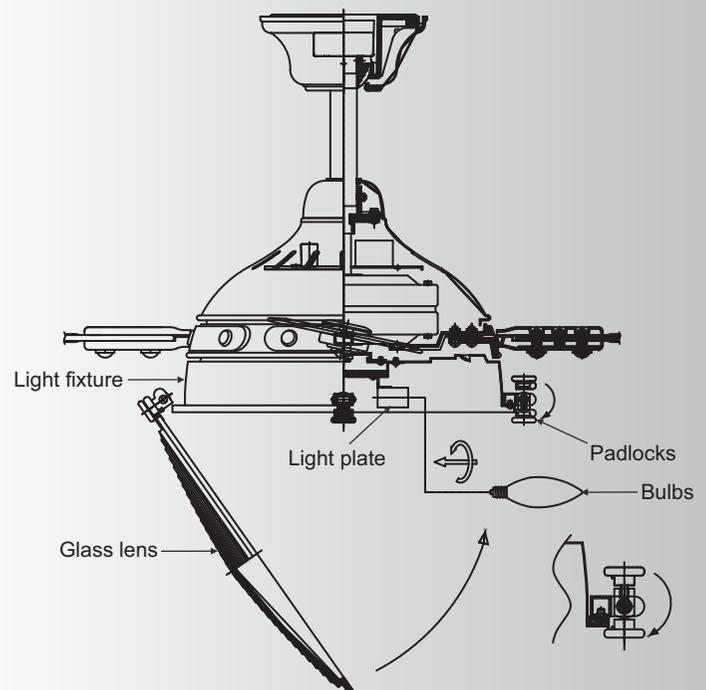

Fig. 20
Step 1. Install 4, 40W candelabra bulbs (included). (Fig. 20)
NOTE: Make sure to the padlocks and tighten to prevent the lens holder from coming tumble.(Fig. 20)